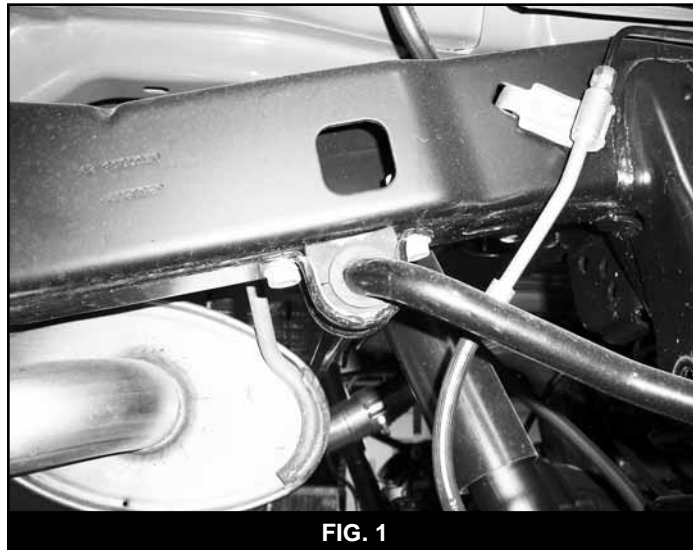

FIG. 1
5. Remove the four bolts (two per side) mounting the sway bar to the frame (Fig 1). Save hardware.